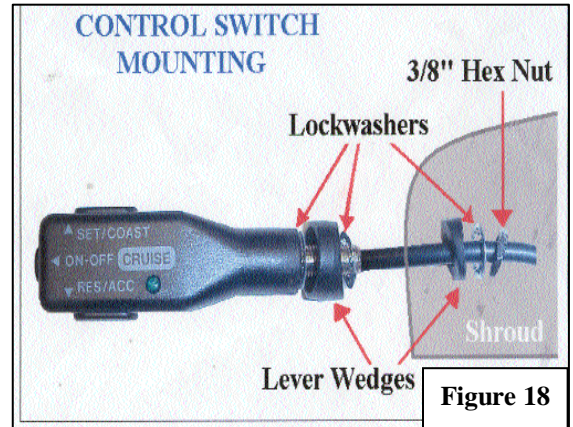

Figure 18
1. Use the **Lever Wedges** on the **Control Switch** as an angle template to drill a 3/8" or 9.5mm hole in the lower shroud of the steering column cover. Assemble **Control Switch** to the lower shroud of the steering column cover according to **Figure 18**.